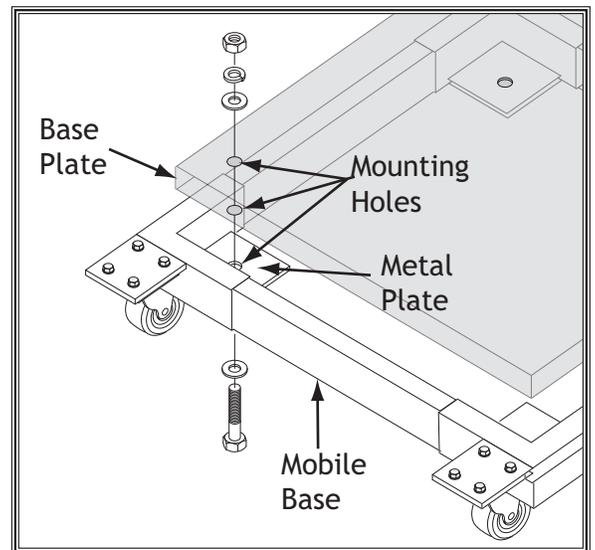

Figure 26. Mounting base plate to mobile base.
6. Secure the base plate to the mobile base with hex bolts, hex nuts, flat washers and lock washers, as shown in **Figure 26**.